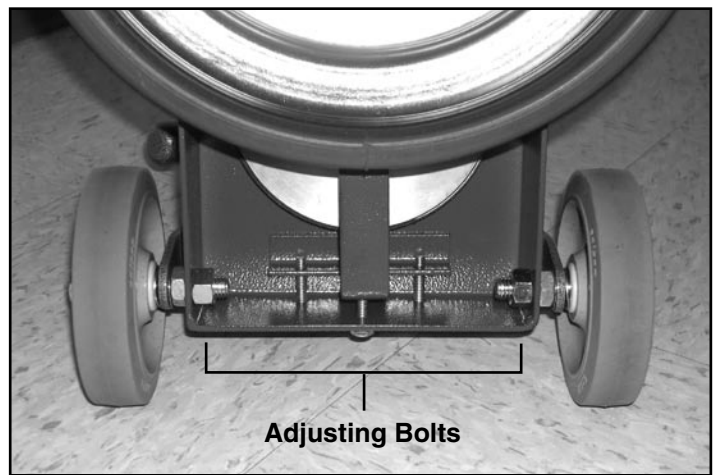

Fig. 5 (view with cover off)
2. Loosen the bolts holding the drive motor to the frame; do not remove (Fig.5)